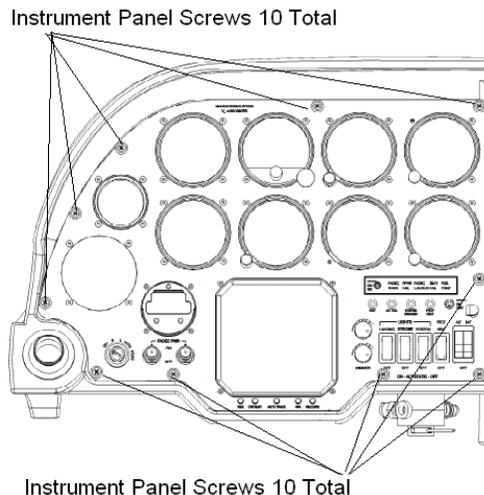

Figure 34-3 Location of the Screws Securing the Instrument Panel
4. Remove the ten screws securing the instrument panel to the instrument console. See Figure 34-3 for location of the screws.